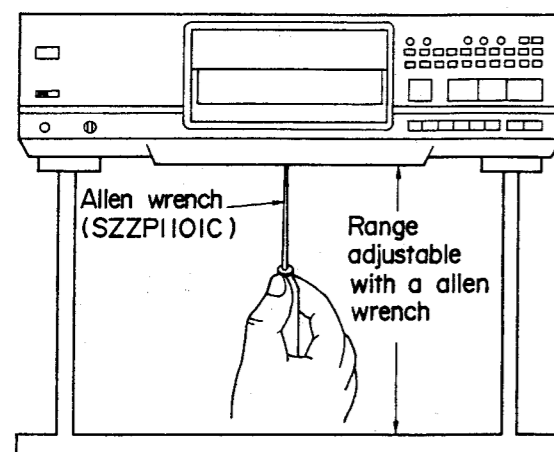

Fig. 2
<p>Procedure 1→2→9→10 →12→13→14 →15→16→19 →21</p> <p>1. Loosen the screw (①) by using a 1.27mm allen wrench and remove the turntable. 2. Remove the 2 screws (②, ③).</p> <p>Caution: 1. Turntable height adjustment is necessary any time the turntable or spindle motor is replaced. 2. The (+) terminal of the spindle motor is indicated by the red mark.</p> <p>Adjustment of turntable height 1. Insert a 0.9mm clearance gauge (RZZ0297) between the turntable and loading base as shown in the figure. 2. Tighten the turntable set-screw by using a 1.27mm allen wrench.</p> <p>Caution: Refer to turntable height adjustment (See page 16).</p>
3. Leave the player in play mode and place the player as shown Fig. 2 on page 15.